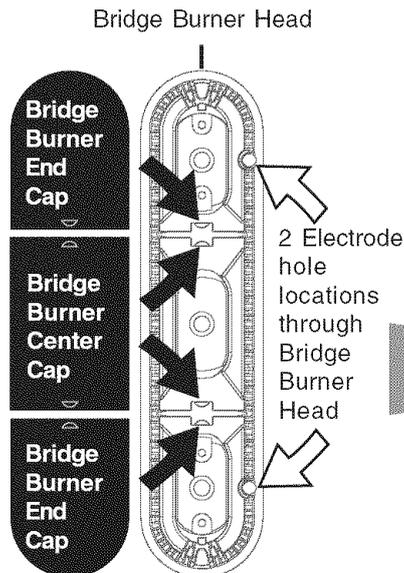

Fig. 3
- Replace all 3 Bridge Burner Caps. These include 1 Bridge Burner Center Cap (rectangular shaped) and the 2 Bridge Burner End Caps (The Bridge Burner End Caps will fit at either the front or rear Bridge Burner Head locations). Make sure that the tabs located under the Bridge Burner Caps fall into the slots located in the Bridge Burner Head (See black arrows in Fig. 3) and that the Bridge Burner Caps lie flat and evenly on top the Bridge Burner Head.